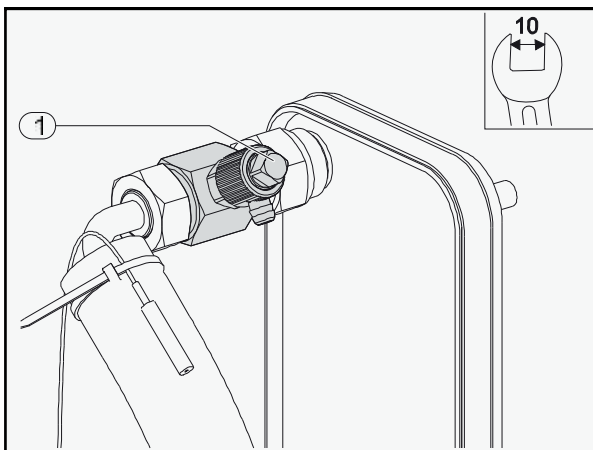

Figure 1
- Step 4** Open the brass bleed valve at the top of the water-loop inside the module (see fig 1) and allow water and bubbles to escape. Leave open for 30 to 60 seconds.